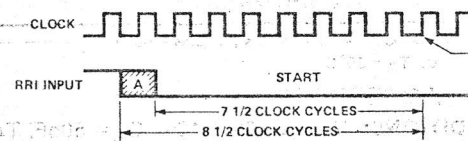

FIGURE 10. Start Bit Timing
The receiver uses a 16X clock for timing (see Figure 10.) The start bit (A) could have occurred as much as one clock cycle before it was detected, as indicated by the shaded portion. The center of the start bit is defined as clock count 7 1/2. If the receiver clock is a symmetrical square wave, the center of the start bit will be located within  $\pm 1/2$  clock cycle,  $\pm 1/32$  bit or  $\pm 3.125\%$ . The receiver begins searching for the next start bit at the center of the first stop bit.